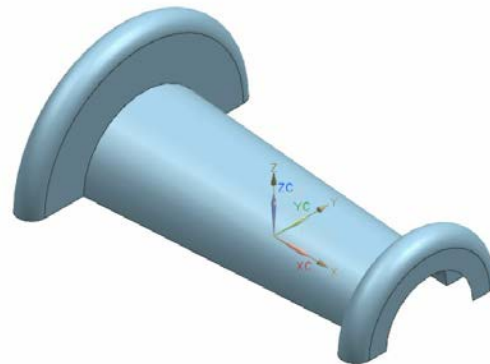

Figure 10-98 The base feature created by revolving the sketch
2. Revolve the sketch about an angle of 180 degrees. The resulting revolved base feature created by using the **Sheet** option is shown in Figure 10-98.